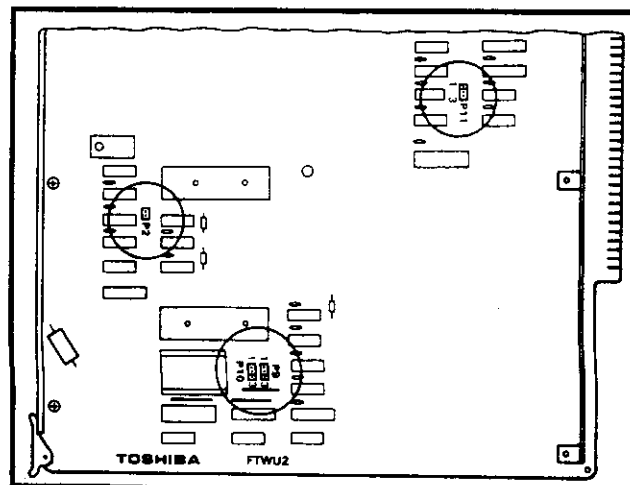

FIGURE 18—FTWU PCB CONNECTION PLUGS and STRAPPING
05.72 Prior to installing the FTWU card in any PERCEPTION II system, the placement of plug connections must be verified. Refer to Figure 18 for the proper location of these plugs. A system that uses A-version software requires the strapping of P11 jumper block pins 2 and 3. If the system uses **D-version** software, then pins 1 and 2 of this jumper block should be strapped. The location of jumper block P11 is depicted in Figure 18.